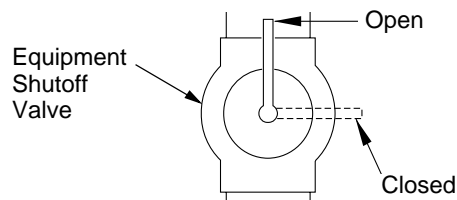

Figure 9 - Equipment Shutoff Valve
1. Close equipment shutoff valve (see Figure 9).
1. Open equipment shutoff valve (see Figure 9, page 9).